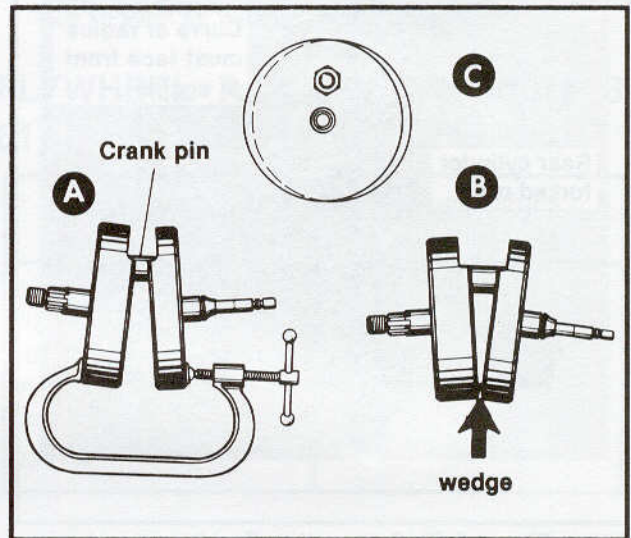

Figure 3-66. Types of Flywheels Misalignment
10. See Figure 3-66. Flywheel may be out of true three ways, A, B, and C, or a combination of two of the three ways.